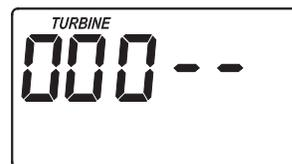

FIG. 28
1. Press and hold the SELECT button until "000 - -" shows in the display (See Figure 28).